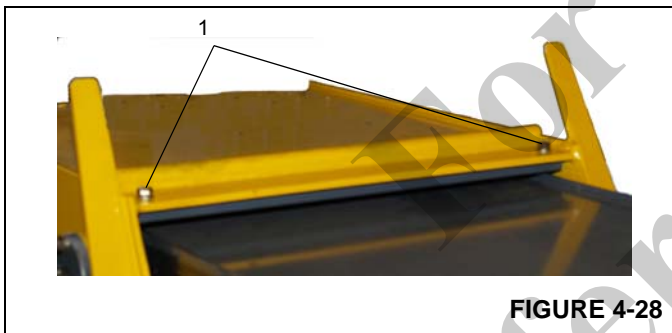

FIGURE 4-28
8. At the top front of the outer mid, remove the two bolts (Figure 4-28, 1) securing the kickback plate. Remove the kickback plate.